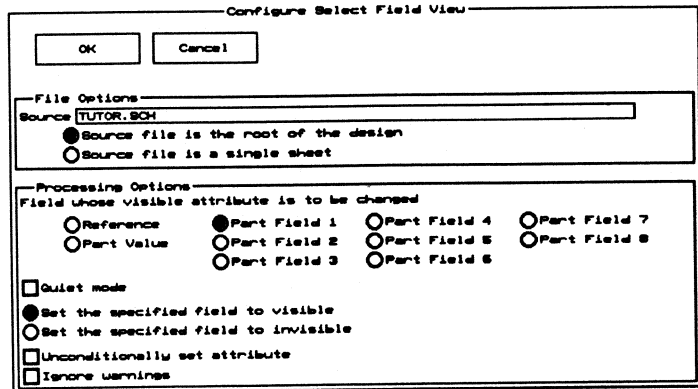

Figure 7-8. The **Configure Select Field View** screen.
1. Select **Select Field View** on the **Schematic Design Tools** screen, and then select **Local Configuration** and **Configure FLDATTRB**. The **Configure Select Field View** screen displays (figure 7-8).